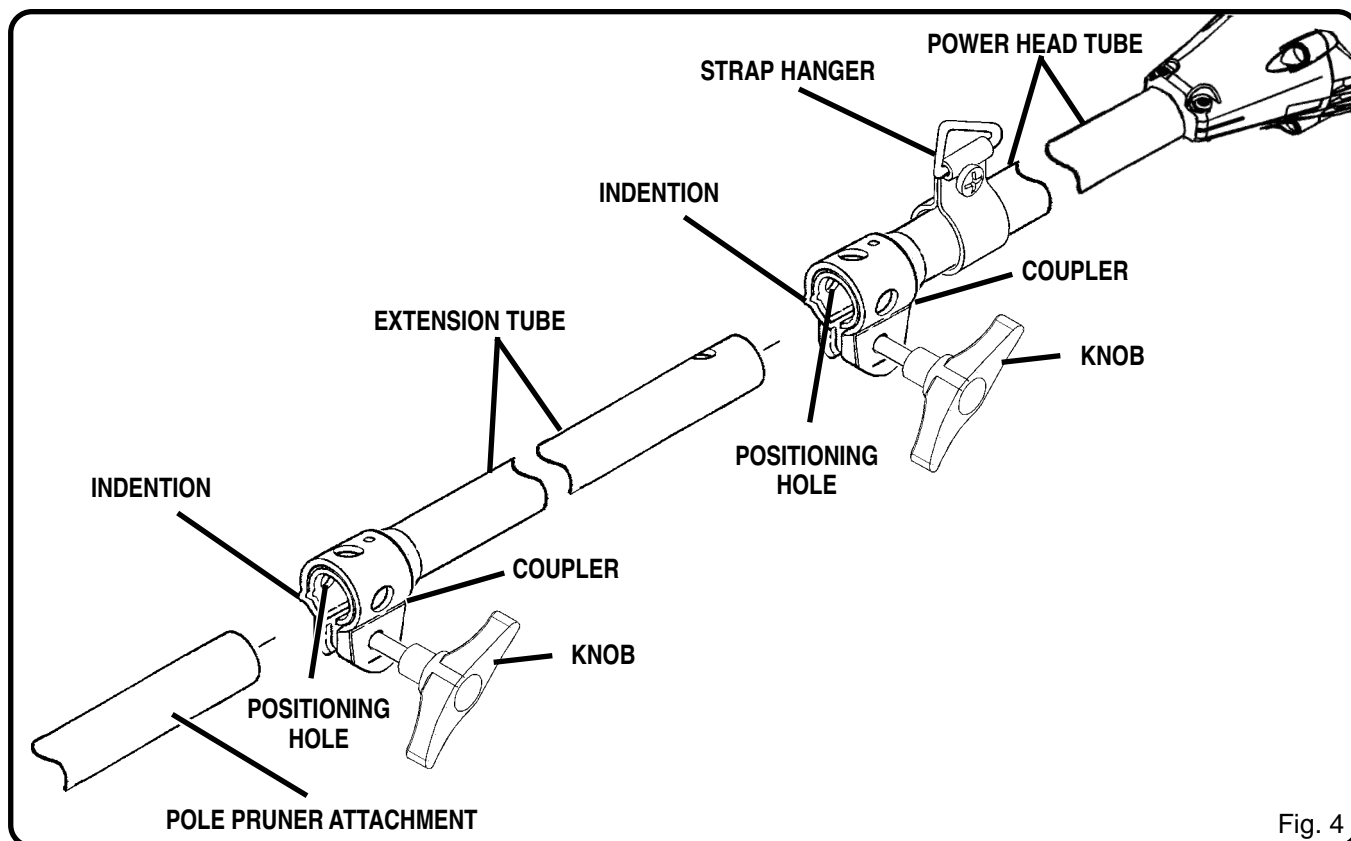

Fig. 4
The pole pruner attachment is fully assembled at the factory and requires no further assembly. However, you may have to attach the strap hanger (See Figure 4) if your power head does not have one.
See Figure 4.
See Figure 4, 5 and 6.
- Pull strap hanger apart and place over power head end of tube, position near the upper knob. See Figure 4.